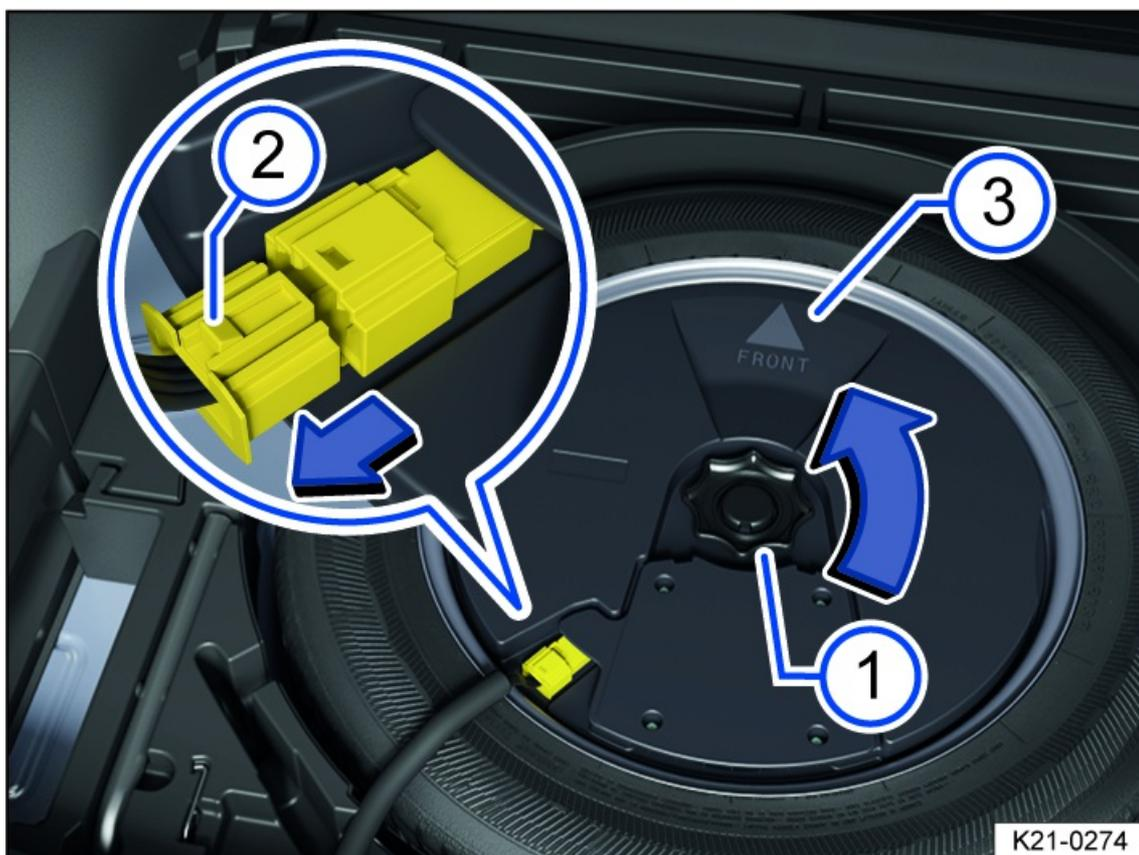

Fig. 179 In the luggage compartment: removing the subwoofer (version 2).
3. Unscrew the handwheel *fig. 179* in the direction of the arrow.
4. To release the connector, press the locking mechanism on the end of the connector *fig. 179*.
1. Place the subwoofer carefully in the rim well. The point of the “FRONT” *fig. 179* arrow symbol on the subwoofer must face forward
2. Connect the connector until the lock *fig. 179* latches into place.
3. Turn the handwheel *fig. 179* on the threaded pin in the opposite direction to the arrow until the subwoofer is securely fastened.